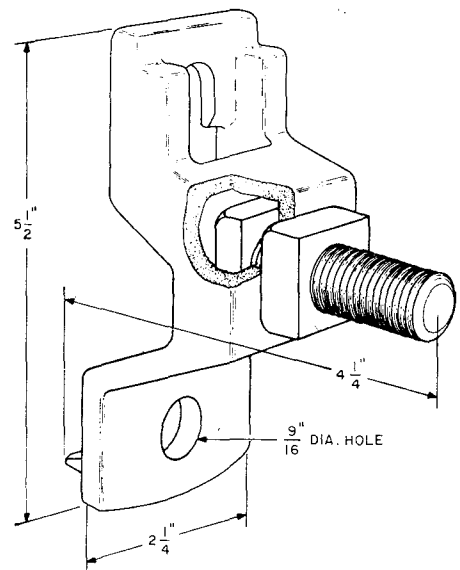

Fig. 1 - B Clamp Support
2.05 Fig. 1 illustrates the B Clamp Support.